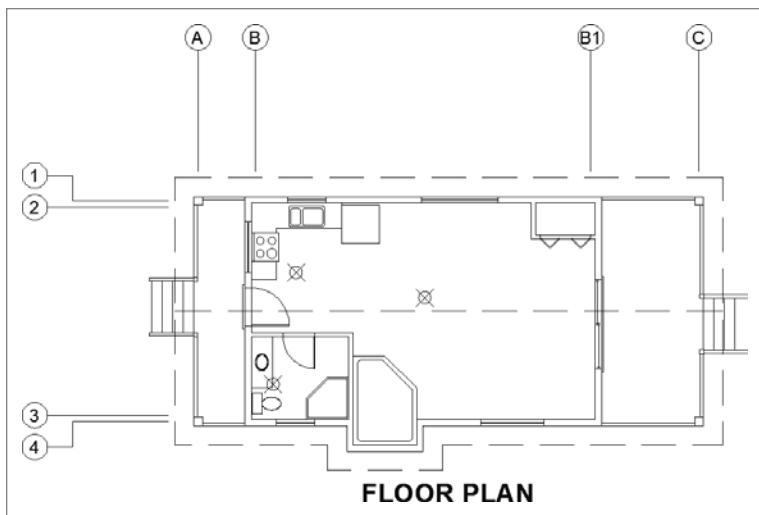

FIGURE 9.15 The floor plan with markers for insertion points and three room labels erased
6. Erase the LIVING ROOM, KITCHEN, and BATH labels. The drawing should look like Figure 9.15.